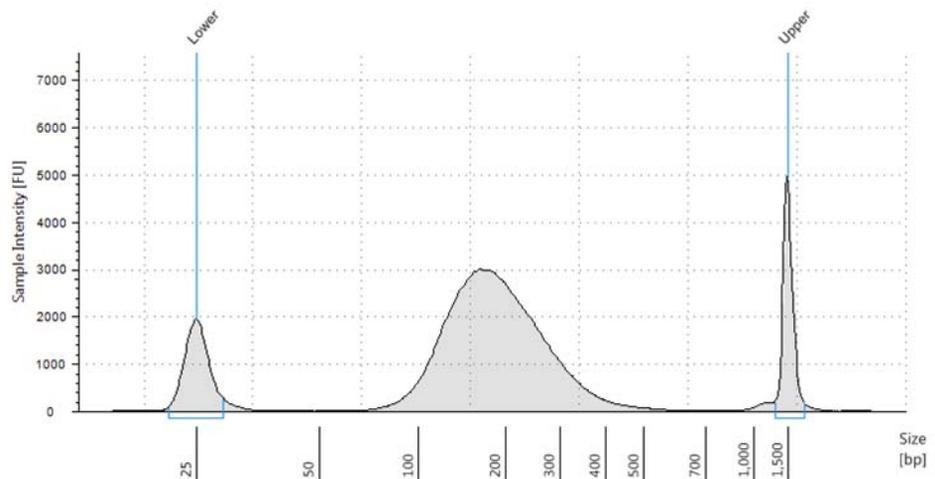

Figure 3 Analysis of end-repaired DNA using a D1000 ScreenTape.
- 3 Verify that the electropherogram shows a DNA fragment size peak between 125–175 bp. A sample electropherogram is shown in Figure 3.